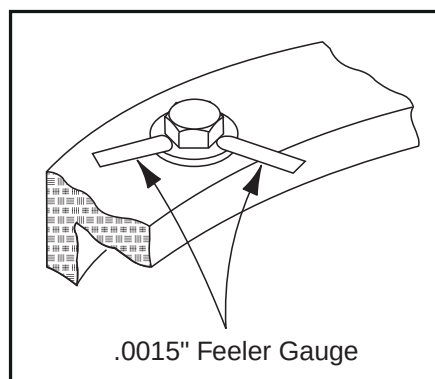

Figure 3-51. Swing Bearing Feeler Gauge Check
2. Try and insert a 0.0015" feeler gauge between bolt head and hardened washer at positions shown in Figure 3-51., Swing Bearing Feeler Gauge Check.